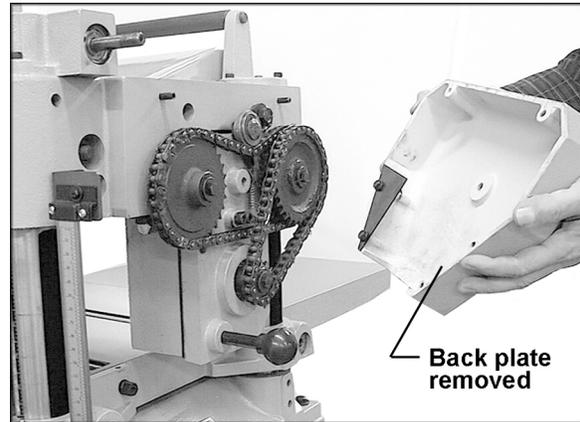

Figure 30
2. Remove the socket head cap screw from the center of the cover and remove the left triangular back plate. See Figure 30.